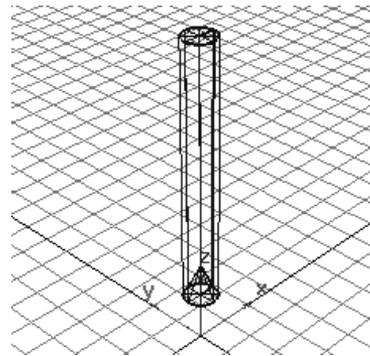

Figure 2-113 Model after creating the tip of the pencil
2. Enter **0, 0, 150** in the promptline and press ENTER; the tip of the pencil is created, as shown in Figure 2-113.